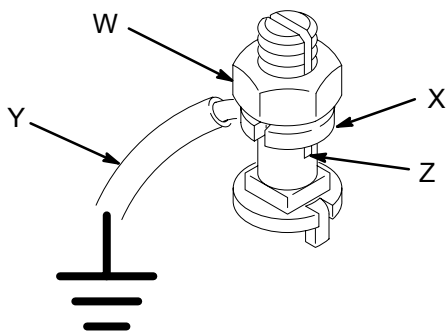

Fig. 1
2. *Pump*: use a ground wire and clamp. See Fig. 1. Loosen the grounding lug locknut (W) and washer (X). Insert one end of a 1.5 mm² (12 ga) minimum ground wire (Y) into the slot in lug (Z) and tighten the locknut securely. Connect the other end of the wire to a true earth ground. Order Part No. 237-569 Ground Wire and Clamp.